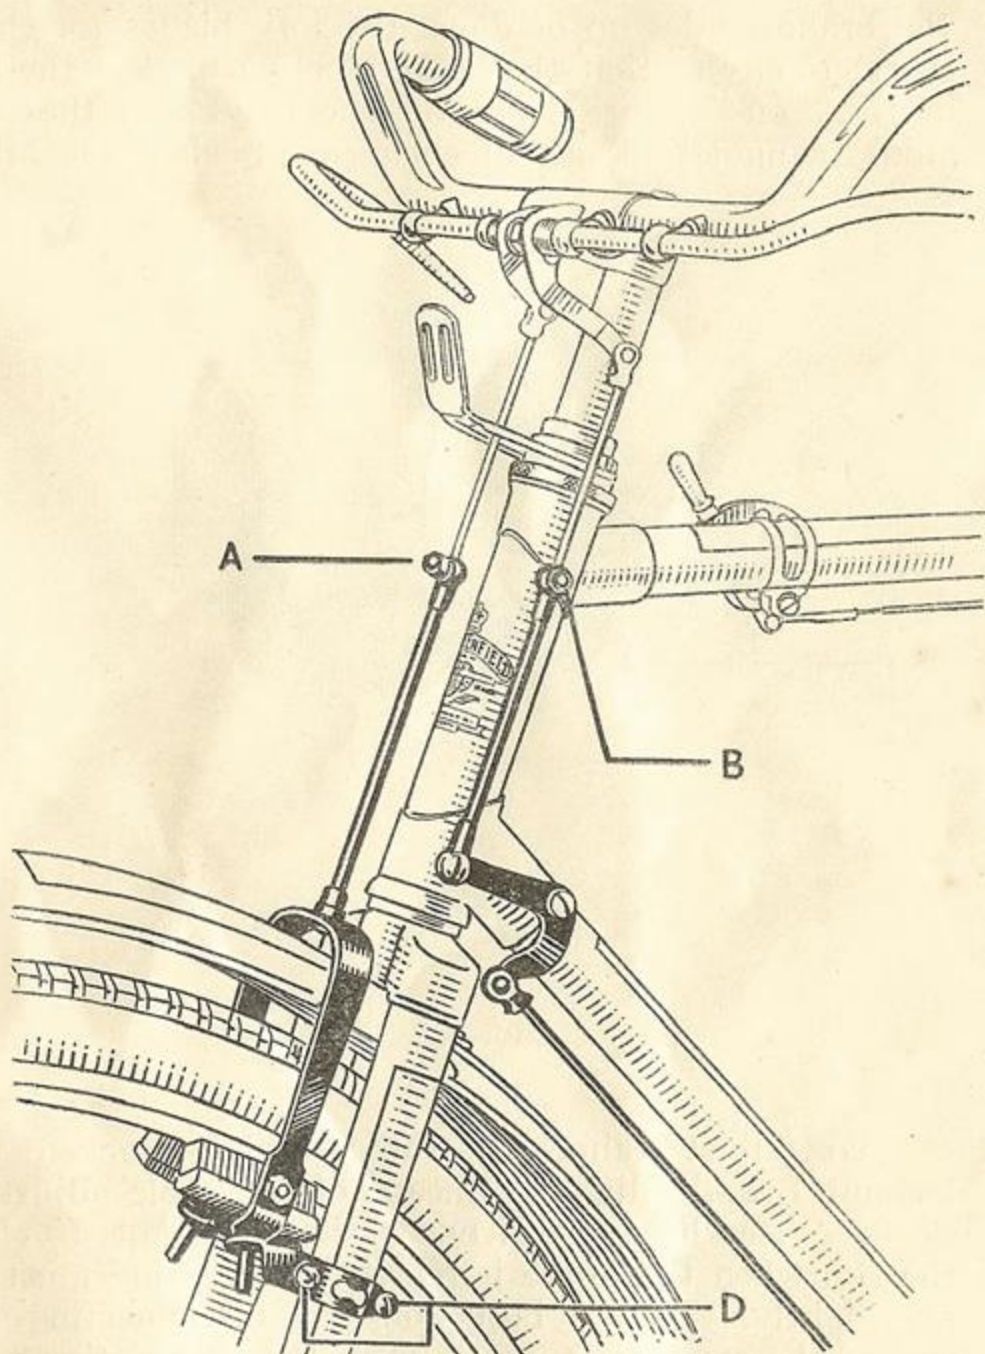
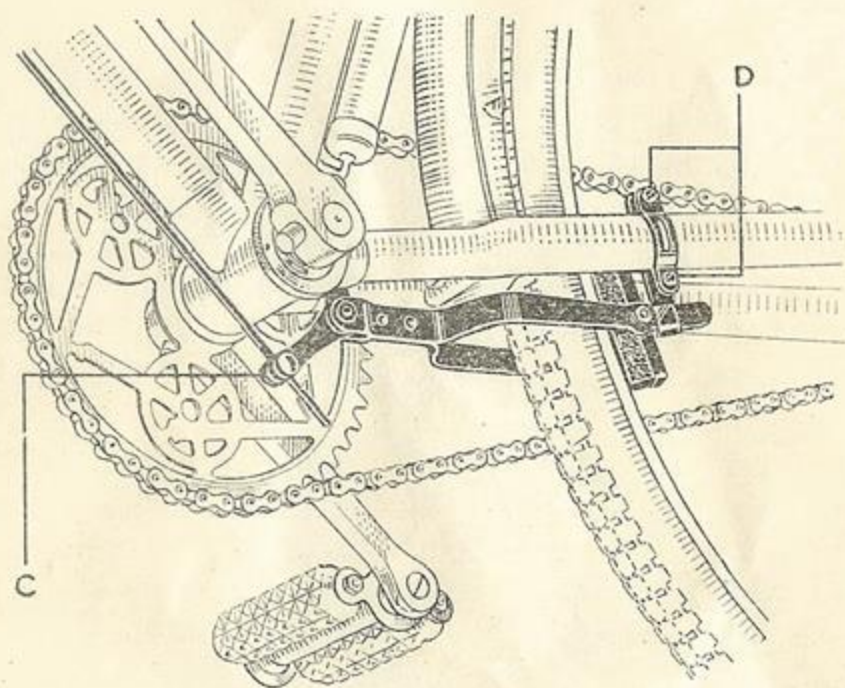

FIG. 4
FIG. 5
- 8     **Brakes.** Rod operated brakes are adjusted by loosening the nuts A, B and C on the pinch bolts (see Figs. 4 and 5) then pulling the brake stirrup until the brake blocks are as close as possible to the rim without causing it to bind, at the same time pushing down on the brake lever and tightening the pinch bolt. In the case of the rear brake note that two points of adjustment are provided, one in front of the steering head B (Fig. 4) and the other beneath the bottom bracket C (Fig. 5). Adjustment of the brake to take up wear of the blocks, or after movement of the rear wheel to tension of the
A (Fig. 4). If the brake blocks are much worn or the rear wheel has been moved a considerable distance for chain adjustment it may be necessary to loosen the screws D (Figs. 4 and 5) and slide the clips carrying the brake guides up or down the fork blades (or chain stays) to ensure that the brake blocks will clear the rim in the "off" position on the one hand and that the guides cannot pull out of engagement when the brake is "on."